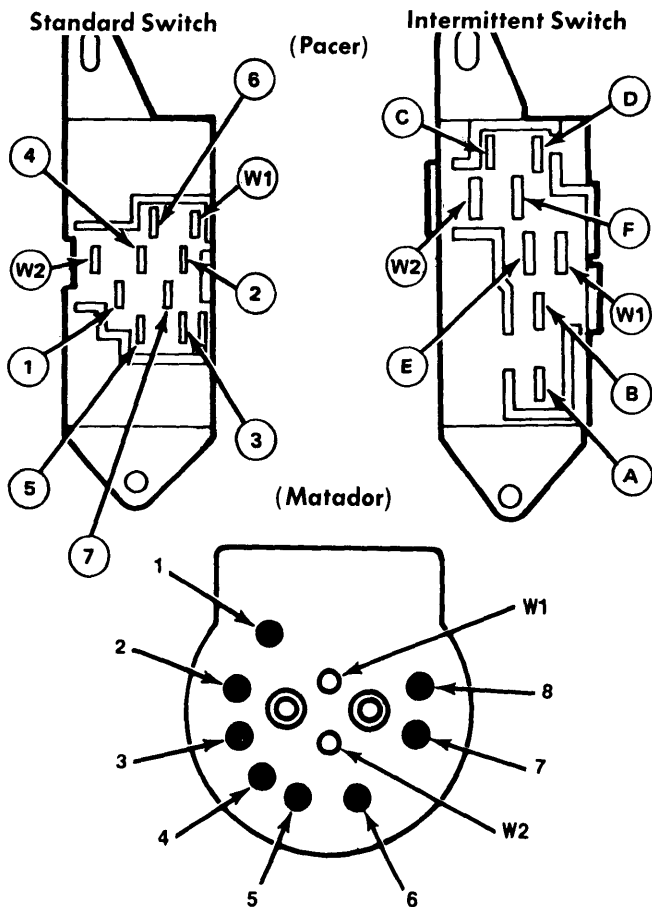

Fig. 2 Wiper Control Switch Terminal Identification
1) Check continuity using a test lamp or ohmmeter. Continuity should exist between various switch positions as shown in Fig. 2, and in Wiper Switch Continuity Test Charts.